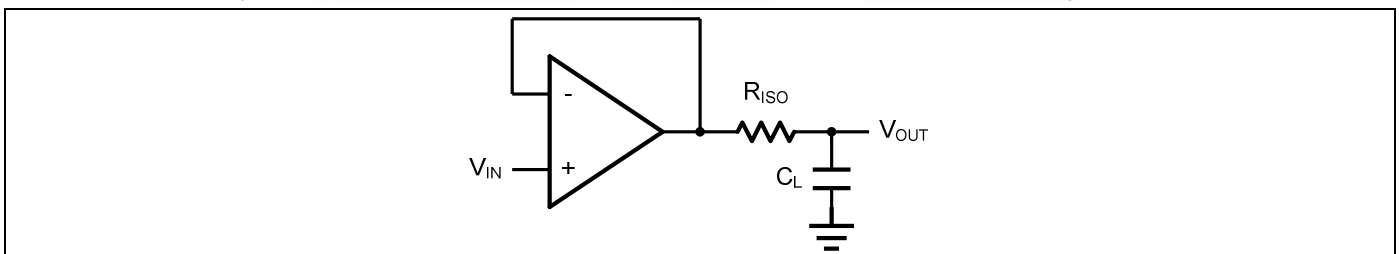
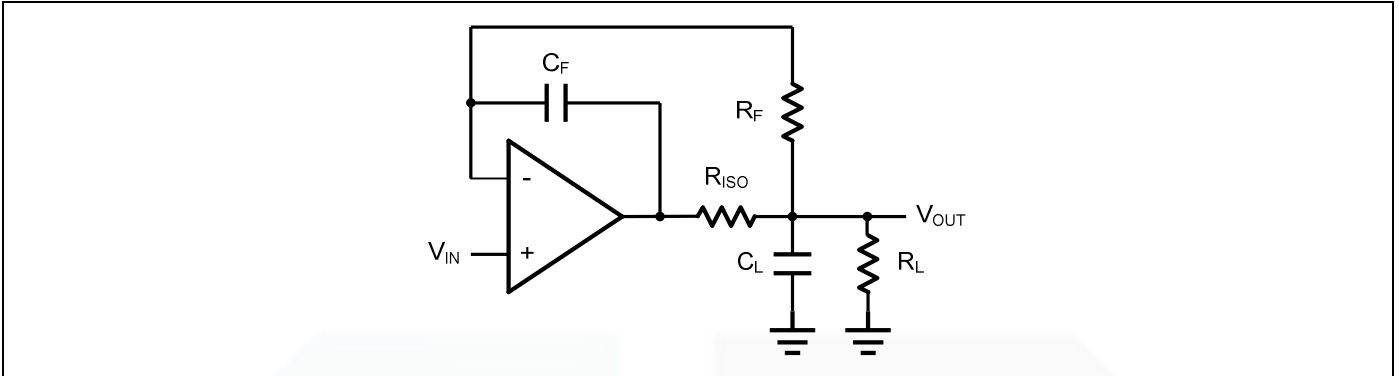

Figure 2. Indirectly Driving a Capacitive Load Using Isolation Resistor
Figure 3. Indirectly Driving a Capacitive Load with DC Accuracy
The GS321 family is optimized for bandwidth and speed, not for driving capacitive loads. Output capacitance will create a pole in the amplifier's feedback path, leading to excessive peaking and potential oscillation. If dealing with load capacitance is a requirement of the application, the two strategies to consider are (1) using a small resistor in series with the amplifier's output and the load capacitance and (2) reducing the bandwidth of the amplifier's feedback loop by increasing the overall noise gain. Figure 2. shows a unity gain follower using the series resistor strategy. The resistor isolates the output from the capacitance and, more importantly, creates a zero in the feedback path that compensates for the pole created by the output capacitance.
The circuit in Figure 3 is an improvement to the one in Figure 2.  $R_{\text{F}}$  provides the DC accuracy by feed-forward the  $V_{\text{IN}}$  to  $R_{\text{L}}$ .  $C_{\text{F}}$